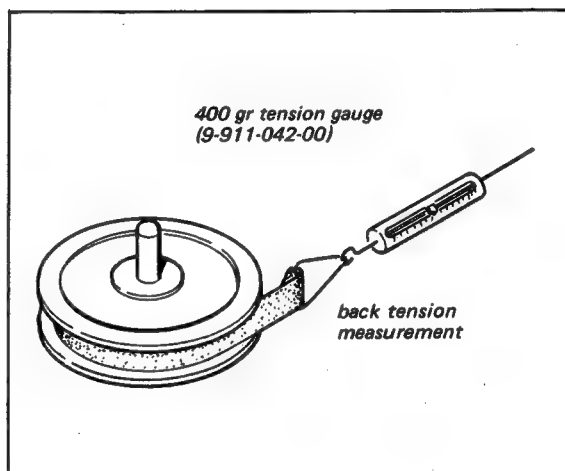

Fig. 7-18
2. Make a loop in the tape and attach a spring scale as shown in Fig. 7-18. Use 400 g tension gauge (SONY Part No. 9-911-042-00).